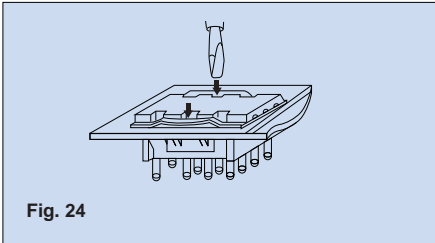

Fig. 24
- The socket should be pushed through the opening in the mounting panel until the projections on the side of the mounting bracket extend out over the back surface. (Fig. 24)